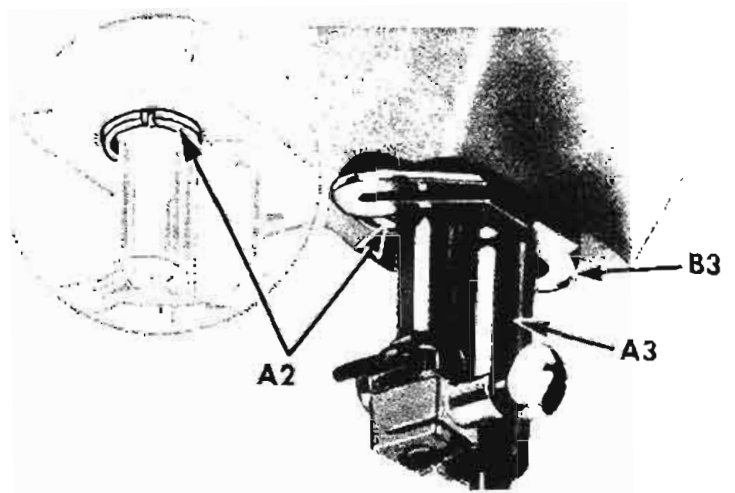
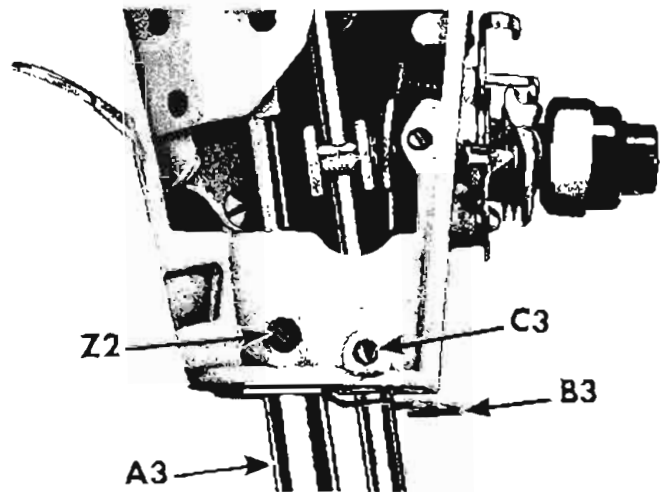
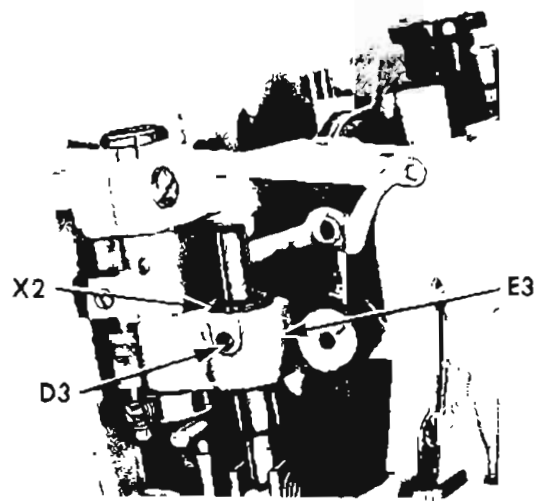

Fig. 20. Lower Ball Bushing
Fig. 21. Bushing Set Screws
Fig. 22. Upper Ball Bushing
Side-shake or binding of needle bar is usually the result of an incorrectly adjusted ball bushing at A2, Fig. 20 or X2, Fig. 22.
To adjust lower ball bushing, first remove presser foot, then loosen screw Z2, Fig. 21, and lower presser bar bushing A3 and thread guide B3.
Loosen set screw C3 and loosen or tighten adjusting screw A2, Fig. 20, as required. (Use 1/2 inch spanner wrench.)
Upper ball bushing may be adjusted with 1/2 inch spanner wrench at X2, after loosening set screw D3, Fig. 22.
**CAUTION:** Tighten set screws C3, Fig. 21, and D3, Fig. 22 only enough to hold adjusting screws A2 and X2 in position. Over tightening of the screws will tend to "shift" adjusting screws, which will cause them to bind.
To check for binding, adjust machine for straight stitching in right needle position (AK5 on Machine 500). Then press vibrating bracket E3, Fig. 22 toward hand wheel end of machine and release. Upon release, bracket should return smoothly to original (right needle) position.
Replace thread guide B3 in groove of presser bar bushing A3, as shown in Fig. 20.
Raise presser bar bushing with guide to its original position. Be sure guide B3 is flat against bottom of casting, as shown in Fig. 21, then tighten set screw Z2.